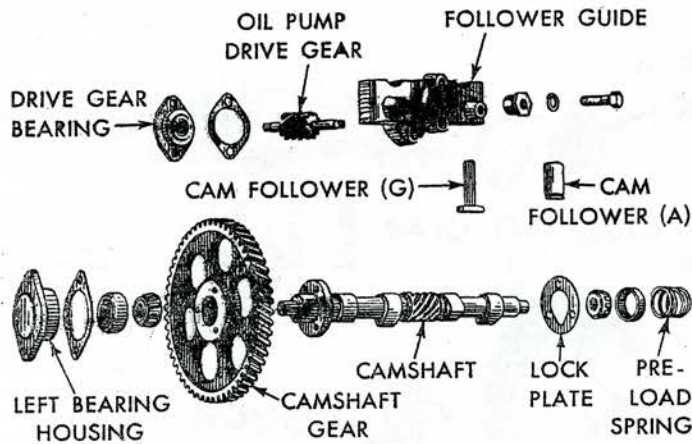

Fig. 6 Camshaft and related parts. Series A and G
**SERIES A & G**—Fig. 6. The camshaft is mounted on two taper roller bearings and end play is controlled automatically by a thrust spring located under the gear cover on the right-hand side of the tractor.